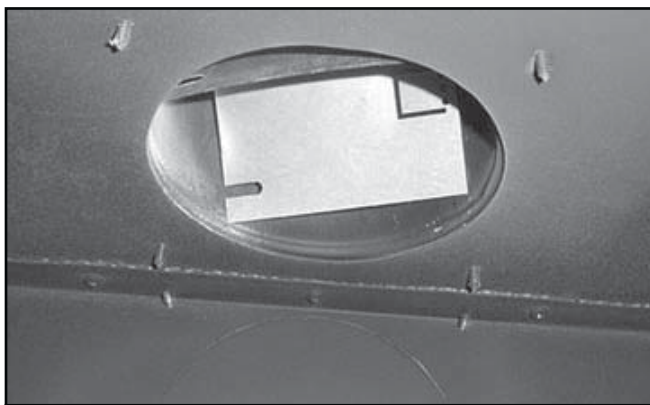

Figure 7.23 Baffle in Place
- Release pressure on the baffle so that it is wedged against the sides of the flue collar. See Figure 7.23.